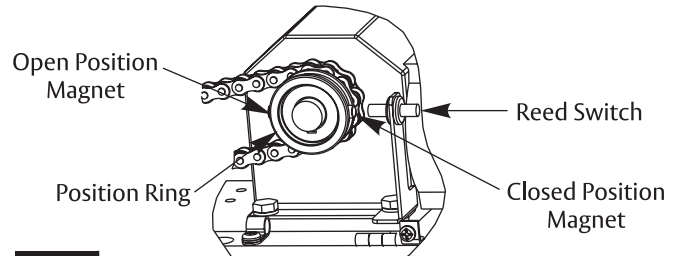

Figure 31
5. Adjust Closing Position Magnet (Figure 31)